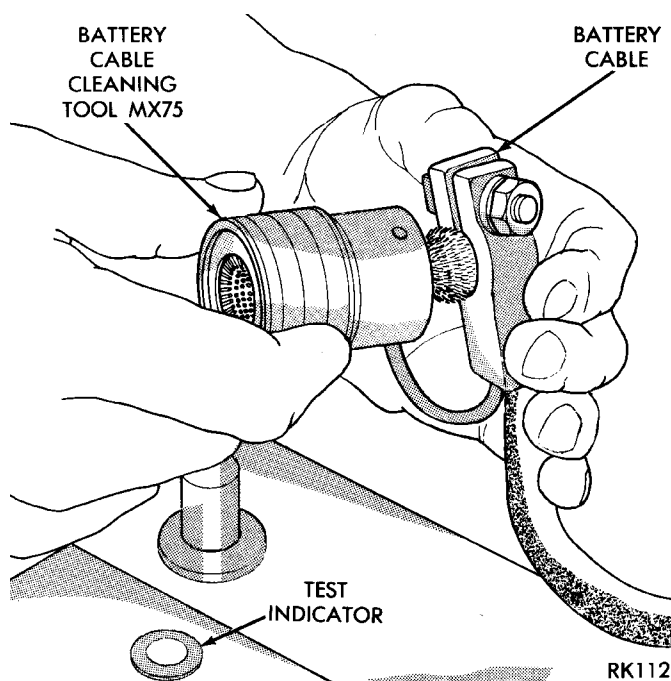

Fig. 17 Cleaning Battery Cable Terminal
(7) Clean battery cable clamps with a battery terminal cleaning tool (Fig. 17). Replace cables that are frayed or have broken clamps.